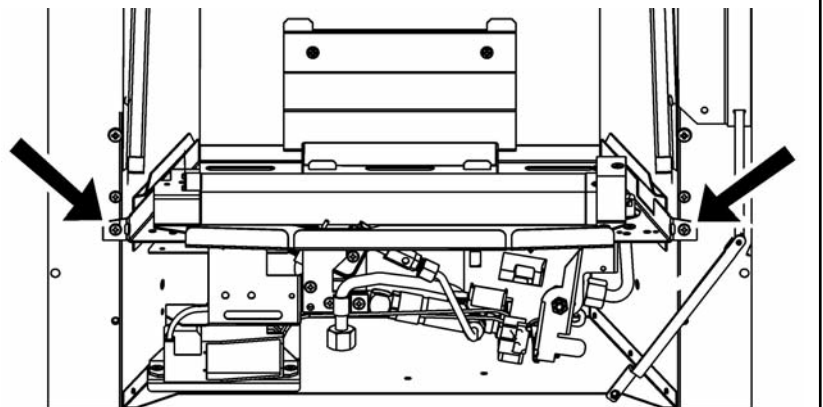

Figure 12. Burner attachment points
4. Detach the burner unit from the convection box by removing two screws (See figure 12). Lift the burner unit clear.